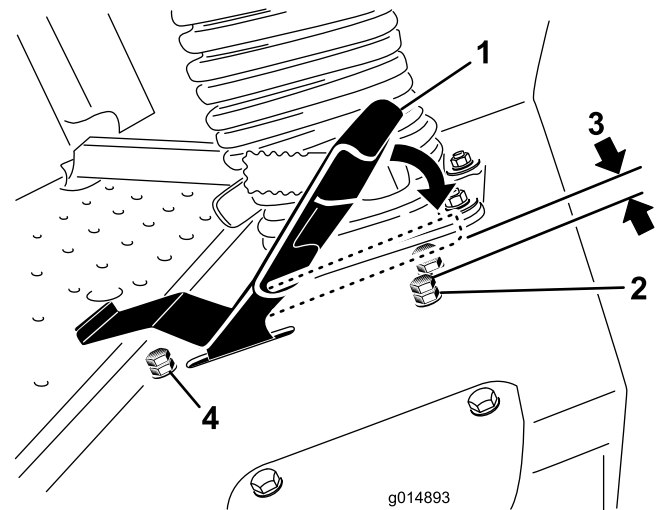

Figure 47
3. Loosen the jam nut on the stop bolt for the traction pedal (Figure 47).